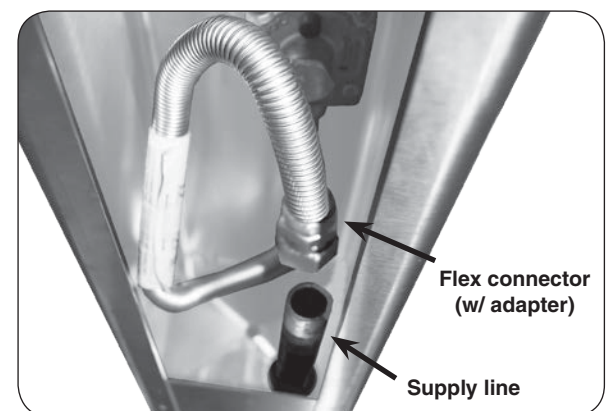

Fig. 19-3 Post interior detail
2. Verify that the gas supply line fits through the gas line clearance hole in the bottom of the post (see Fig. 19-3). The clearance hole is the larger of the two holes in the bottom of the post and is off center.